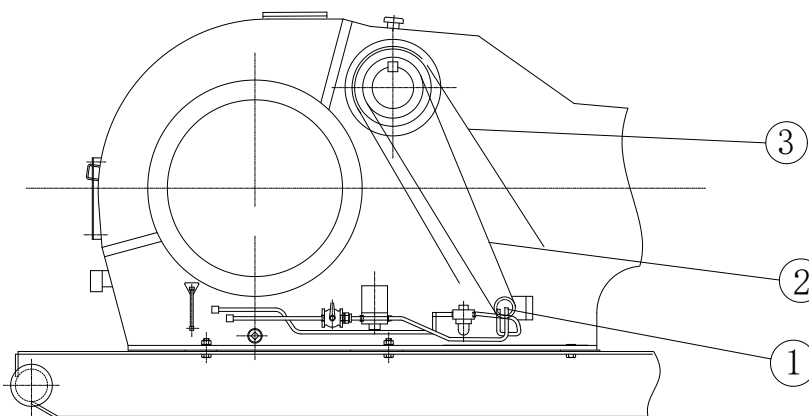

Fig. 13
A typical layout for the pinion shaft driven oil pump is shown in Fig. 13. The oil pump (1) is piped into the oil system through the suction and pressure connections on the bottom inside wall of the power frame.
(1) Oil pump (2) V-belt (3) guard
Ref. Fig.13. Adjust the V-belt drive (2) to a point where the two halves of the belt can almost be “pinched” together between the thumb and fingers at the center of the drive. Over tightening can cause premature failure of the pump.
To prevent possible injury, always install guard (3 Fig.13) over V-belts before putting pump into service.